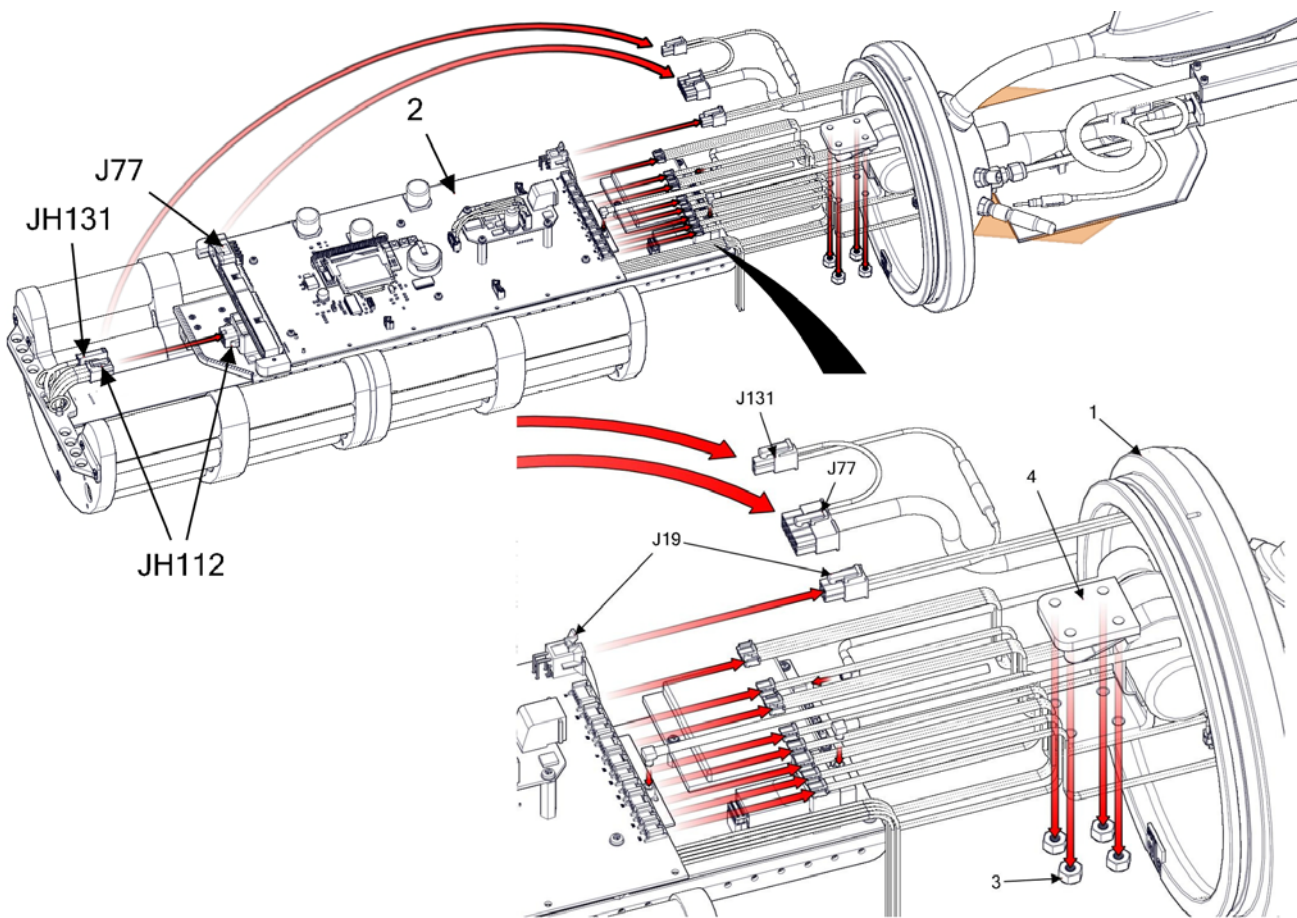
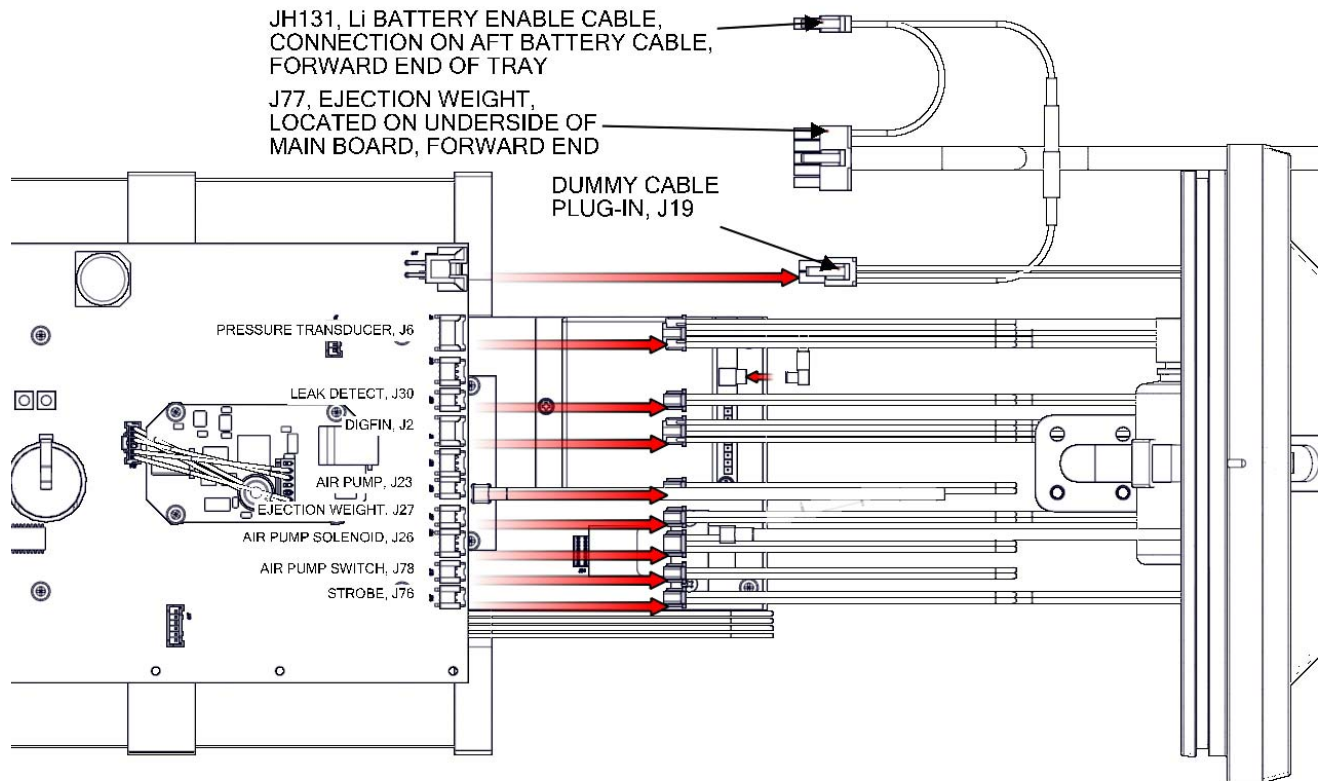

Figure 2-26 Aft end cap assembly.
Figure 2-27 Aft end cap assembly detail.
4. Separate the aft hull section from the aft end cap assembly (Figure 2-26).
1. Remove all wiring connections from the aft electronics tray (Figure 2-26, Item 2). Figure 2-27 shows the wiring connections in detail.
2. Remove the four 10-32 nylock nuts (Figure 2-26, Item 3) that attach the aft support spacer (Figure 2-26, Item 4) to the aft electronics tray.
1. Install the four 10-32 nylock nuts (Figure 2-26, Item 3), that attach the aft support spacer (Figure 2-26, Item 4) to the aft electronics tray (Figure 2-26, Item 2). Figure 2-27 shows the wiring connections in detail.
2. Install all wiring connections from the aft electronics tray (Figure 2-26, Item 2) to aft end cap assembly.